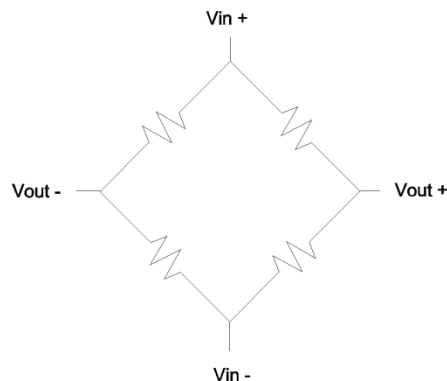

Figure 1 – Closed bridge
- a. *Closed* – A bridge in which all resistors are connected (See Figure 1).